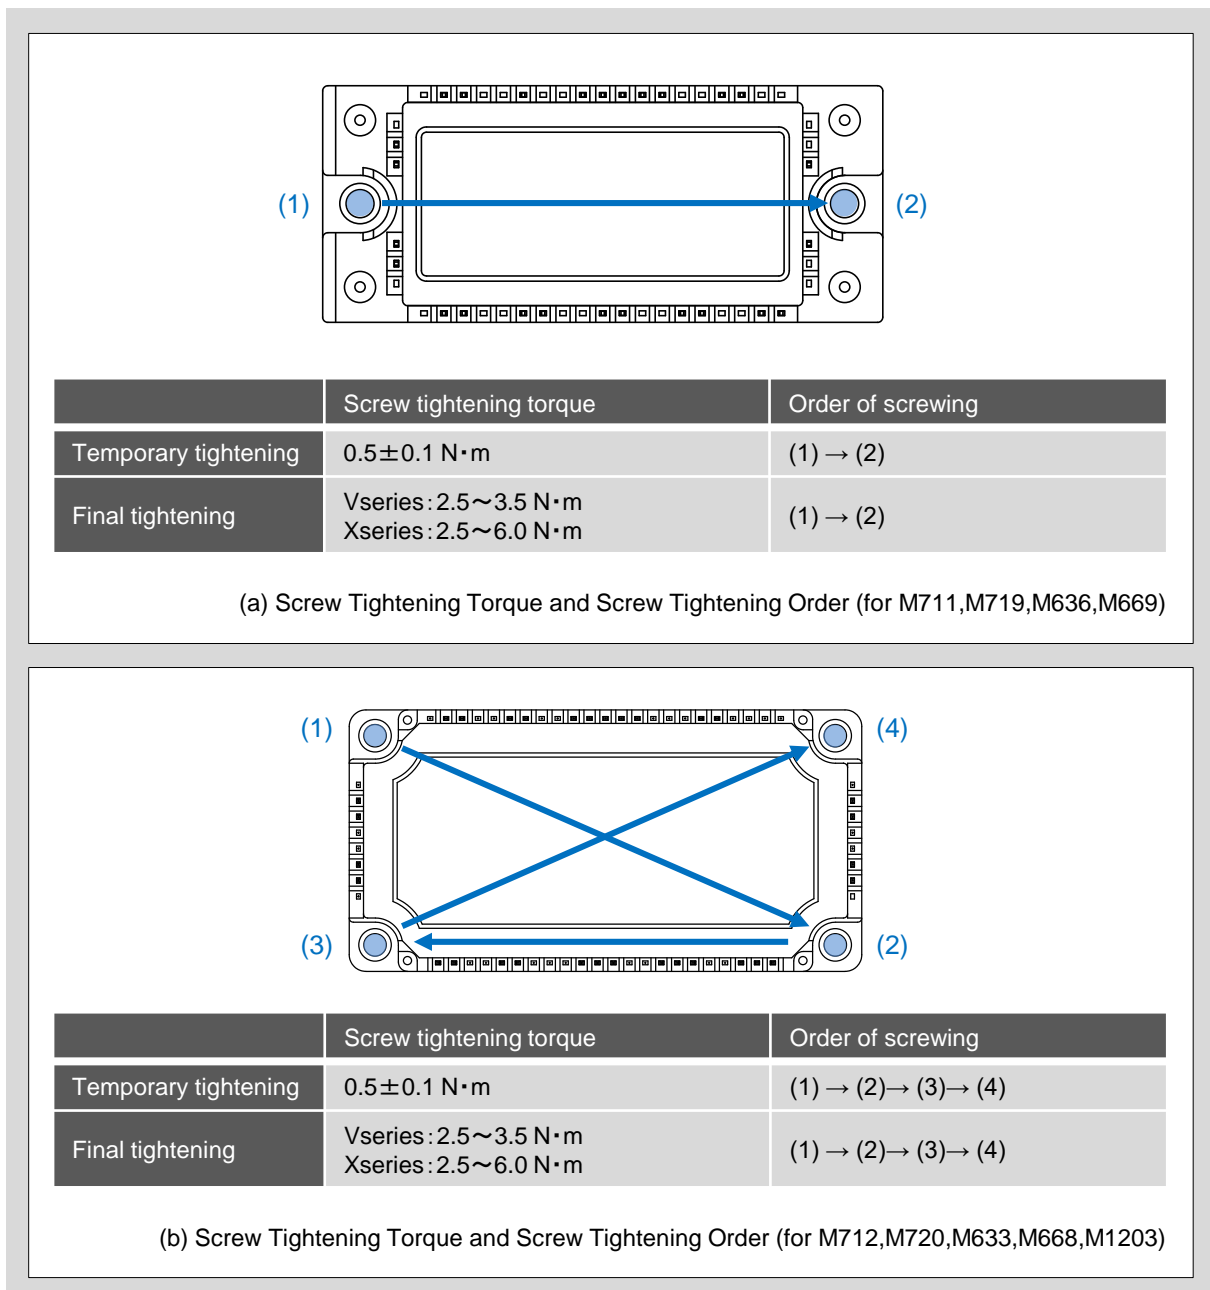

Fig. 3 Screw Tightening Torque and Screw Tightening Sequence
2. To fix the module with even force, first perform temporary tightening with $0.5\text{N}\cdot\text{m}$. Fig.3 shows the tightening sequence.